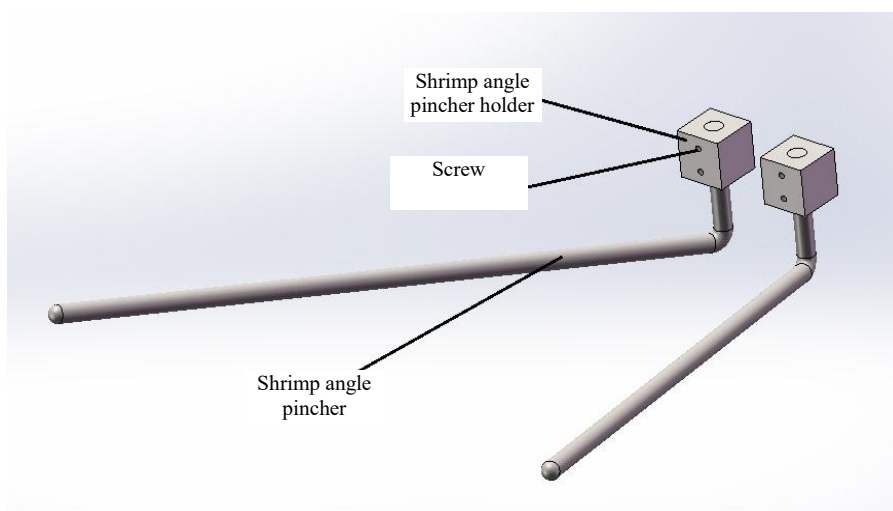

Figure 7
3.5 Location adjustment of shrimp angle pincher (Figure 7)	- 9 -
3.5 Location adjustment of shrimp angle pincher (Figure 7)